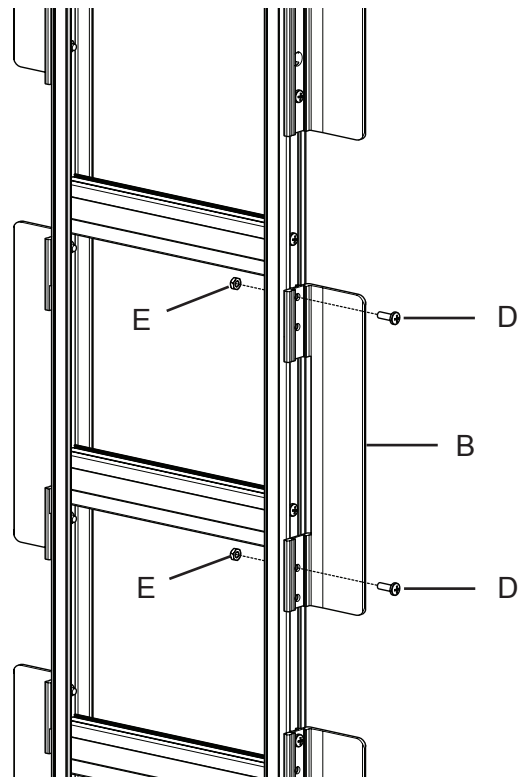

Figure 5
- a. Position the middle wing (B) against the side rail so that the bottom edge of the wing is about 21-3/4" above the bottom edge of the frame side rail.
4. If holes exist in the frame (see Figure 5):
- b. Position the middle wing (B) against the side rail and insert a 1/4"-20 x 3/4" long pan head screw (D) through the wing's top hole and secure with a lock nut (E)(finger tighten only for now).
- c. Insert a 1/4"-20 x 3/4" long pan head screw (D) through the wing's second hole from the bottom and secure with a lock nut (E)(finger tighten only for now).